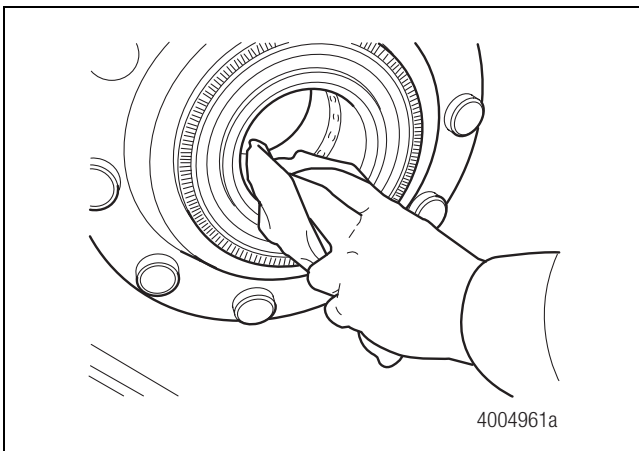
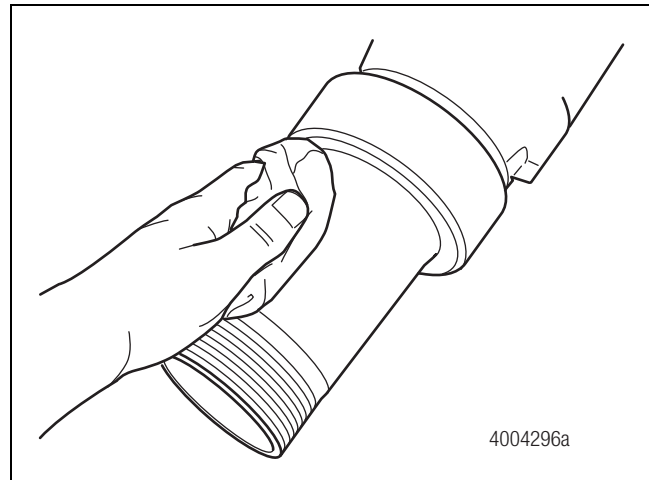

Figure 3.19
Figure 3.20
1. Clean the axle spindle and hub bore by wiping them with a clean rag. Figure 3.19 and Figure 3.20.